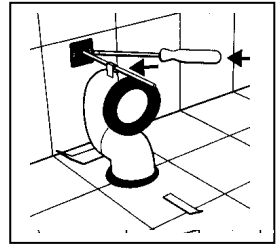

Fig 3
4) Install the Vario bend brace to the wall and fix the vario bend into position by securing it to the brace (See fig 3). Please check the measurements. Place the rubber seal over the front of the vario bend (See fig 3). Lubricate the rubber with an approved silicon based lubricant.